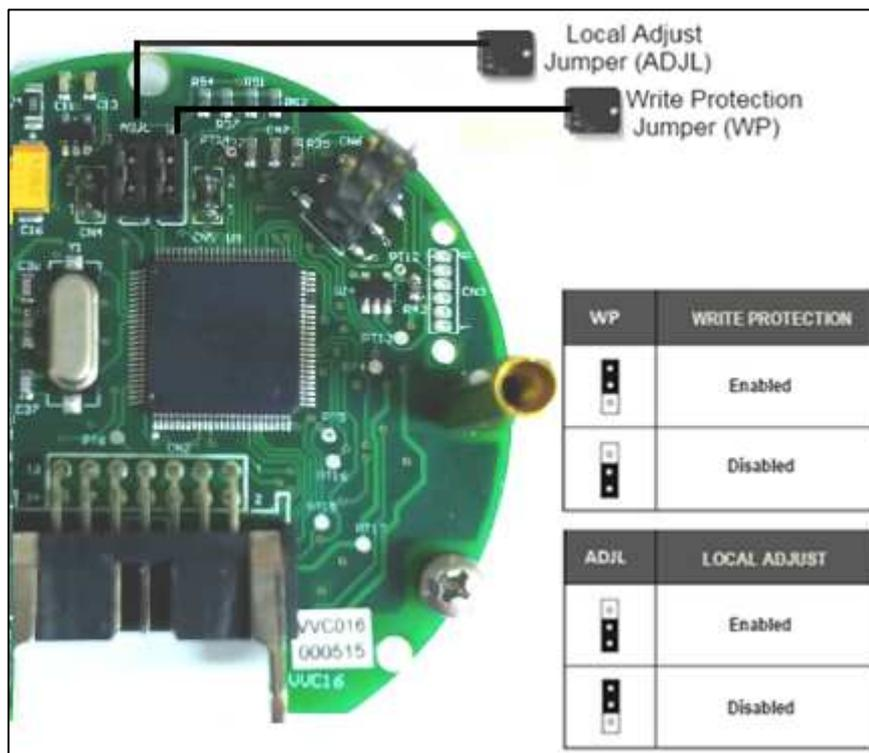

Figure 3.2 – Jumpers WP (write protection) and ADJL (local adjust) on VTP10-P main board.
VTP10-P has two jumpers on its main board to protect data writing (WP) and enabling/disabling local adjust (ADJL). Figure 3.2 presents those jumpers.